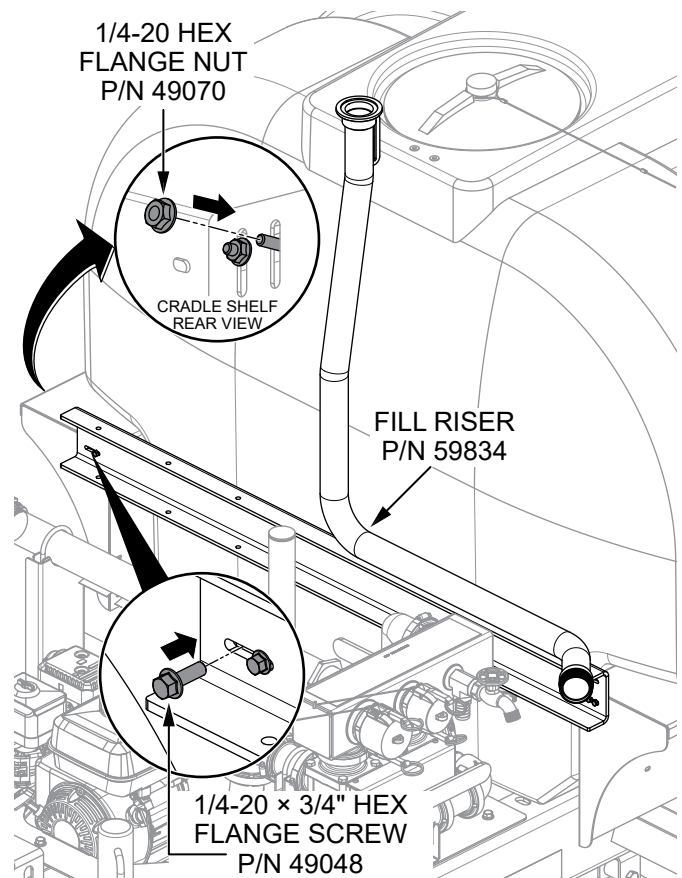

Figure 18. Install Fill Riser
- Use **four 1/4-20 × 3/4" hex flange screws (P/N 49048)** and **four 1/4-20 hex flange nuts (P/N 49070)** to secure the fill riser (P/N 59834) to the **left- and right-side cradle shelves** as shown in Figure 18. Tighten the hardware securely.